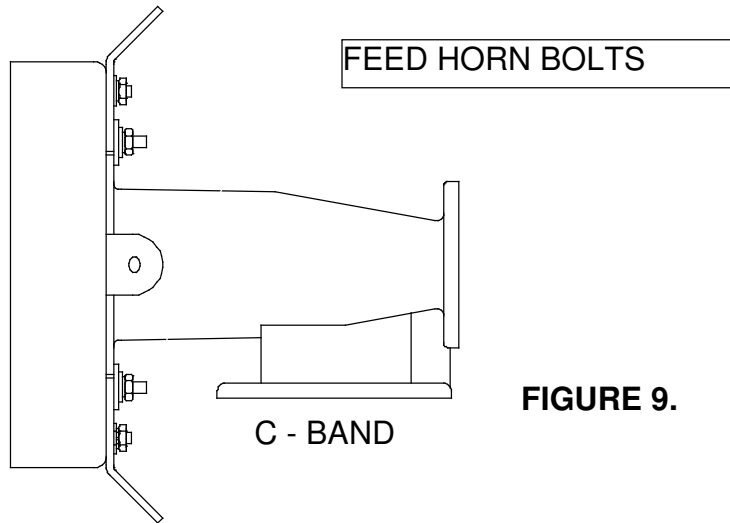

FIGURE 9.
2. **POLARITY ADJUSTMENT** - On c-band and ku-band feed systems, polarity is adjusted by loosening the feed horn bolts (see figures 9 and 10) and rotating the OMT or feed horn 90 degrees, then retighten the bolts.